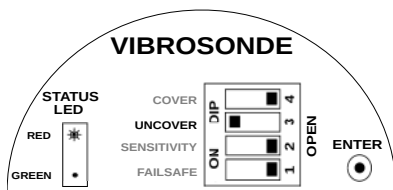

Figure 13: Uncover Delay Switch Position
2. To set the Uncover Delay, set the UNCOVER switch to CLOSE position as shown in Figure 13. (CLOSE is the opposite of OPEN for a DIP switch.) The STATUS RED LED will glow.